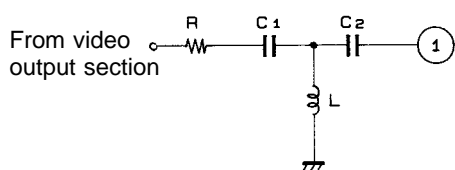
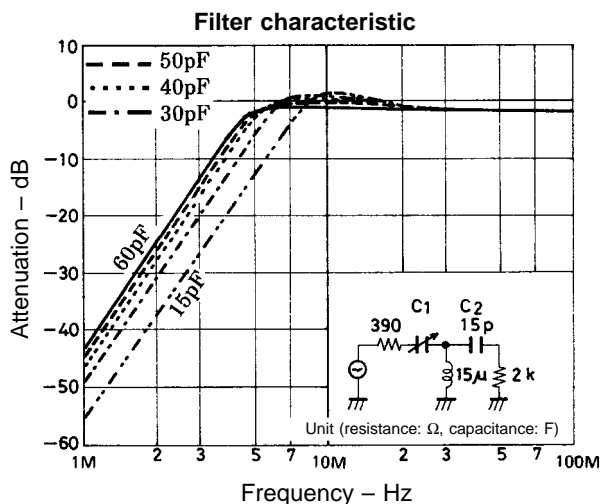

Figure 2 A00674
Figure 3
- Pin 1 is the SIF input pin. The filter in Figure 2 can be connected to the input section to improve the buzz characteristic. Figure 3 shows the characteristics for the filter in Figure 2. If C1 is too small, the buzz characteristic improves for normal input, but the filter cuts into the sound carrier and the buzz characteristic deteriorates for the P/S (picture/sound carrier) ratio. Use $C1 \approx 20 \text{ pF}$ to 47 pF .